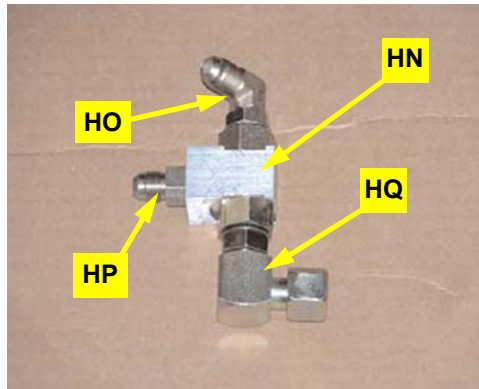

Figure 6a: Prepared load sense shuttle valve
- a. Prepare the load sense shuttle **HN** with fittings **HO**, **HP** and **HQ** (Figure 6a).